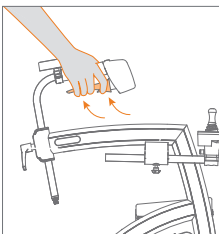

Figure 28: Apply the parking brake.
- c. Do you want to use the parking brake to make sure the rollator does not roll away? First squeeze the brake handles and simultaneously squeeze the parking brake levers. Then release the brakes. Your walker is now in the parking position (**Figure 28**).